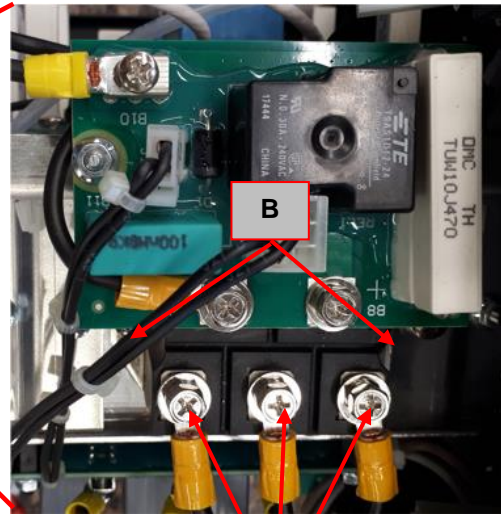

Figure 24
5. Using the screwdriver PH02 remove the 3 screws (**A**). See **Figure 24**.
6. Using Socket wrench 7mm remove the 2 screws (**B**) that are fixing the Rectifier Input Bridge to the heat sink. See **Figure 24**.